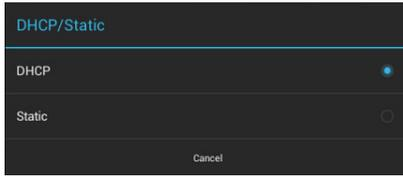

FIG. 53 DHCP/Static window
1. Press *DHCP/Static* to access the *DHCP/Static* options window (FIG. 53):